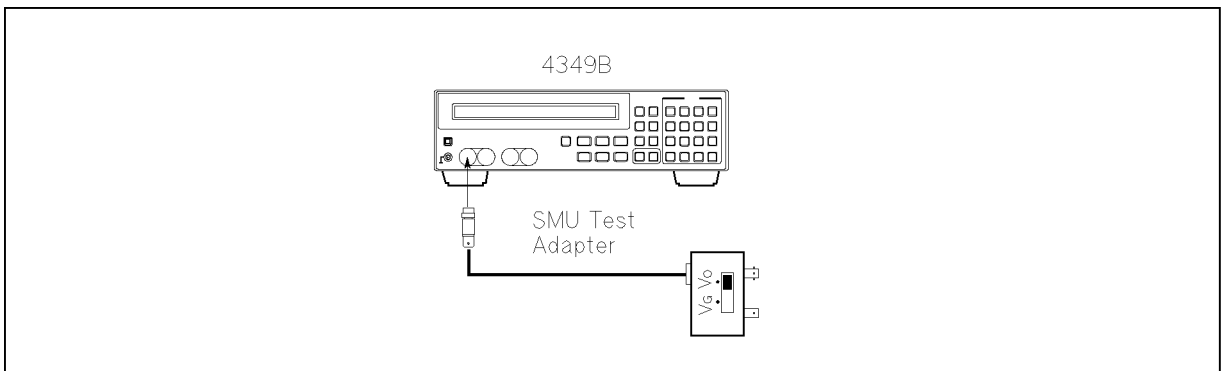

Figure 9-12. Contact Check Functional Test Setup
2. Set up the equipment as shown in Figure 9-12.